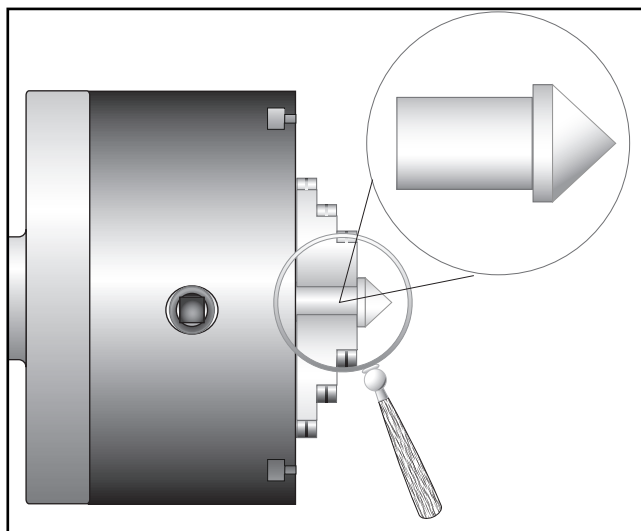

Figure 32. Finished dead center.
2. Make a dead center by turning a shoulder to make a shank. Flip the piece over in the chuck and turn a 60° point. **See Figure 32**. As long as it remains in the chuck, the point of your center will be accurate to your spindle axis. Keep in mind that the point will have to be refinished whenever it is removed and returned to the chuck.